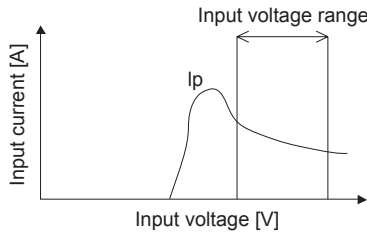

Fig.2.2 Input Current Characteristics
■ Choose a front end power supply that can supply enough current I_p (Fig. 2.2) for starting up the power module.